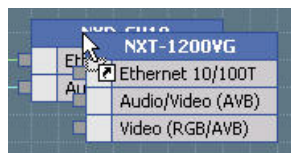

FIG. 130 Replacing a Touch Panel
2. When the replacement touch panel is positioned correctly to replace the existing one, the Replace icon is displayed on the cursor (FIG. 130):